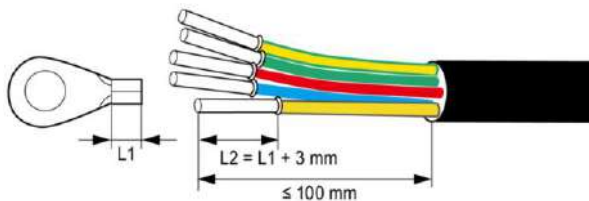

Figure 4.20 Wire crimp terminal
- (5) Crimp the five wires(L1、L2、L3、N、PE) of the three-phase utility grid and the OT terminals firmly to ensure that the conductor of the wire is not exposed, as shown in Figure 4.20;